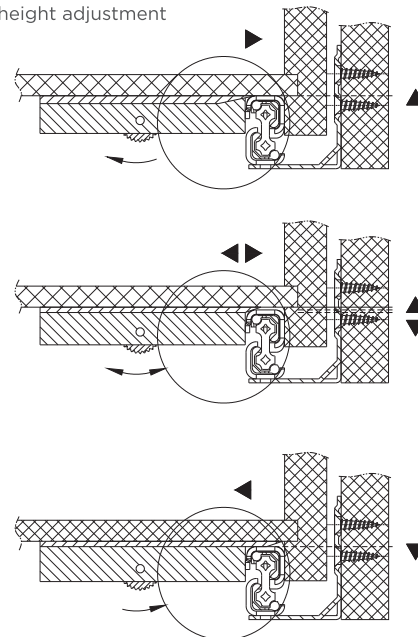

Fig. 6
8. Drawer height can be adjusted by +2 mm by turning the wheel in the release clip (Refer Fig. 6).